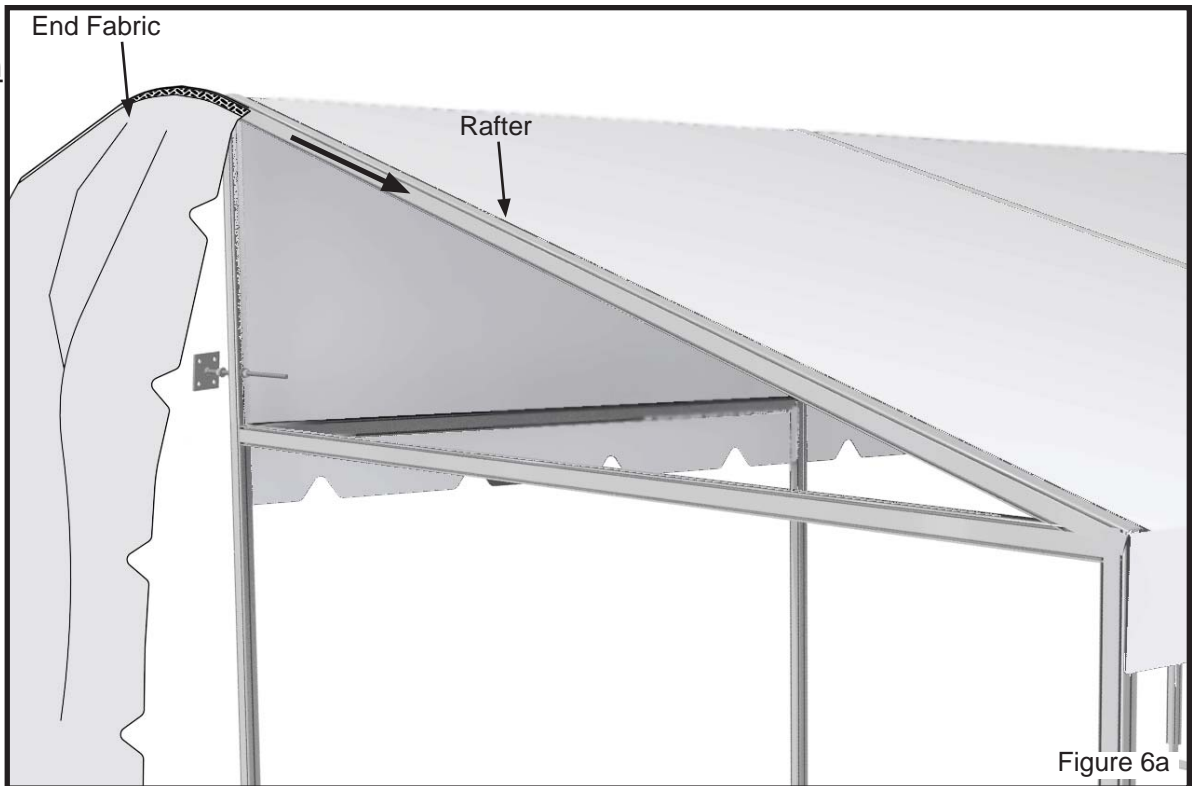

Figure 6a
- With one installer at top of the end rafter, feed eave end of kedar into top channel opening of ridge weldment and down into rafter until end of kedar reaches the end of the rafter. (Figure 6a)